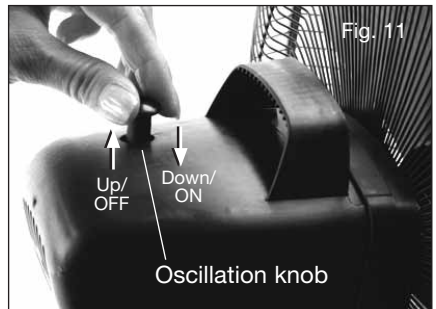

Fig. 11
- To STOP fan oscillation, pull the Oscillation Knob UP.(Fig. 11).